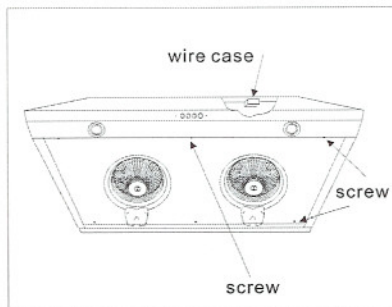

Fig.13
1. Turn the six nuts at the front/back of bottom board. ( Fig.13)
2. Remove screws on wiring case, fish out wires through the knockout. (Fig.13)